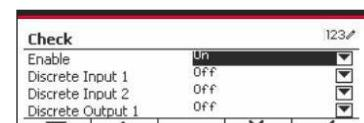

Figure 64
4. Select the list item and press the softkey corresponding to the  icon to change setting. (See Figure 64)